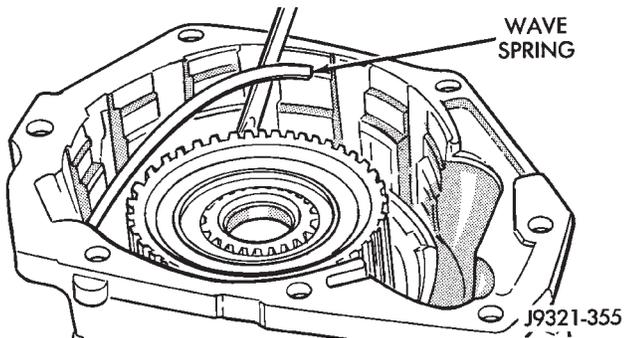

Fig. 260 Overdrive Clutch Wave Spring Installation
- (2) Install wave spring on top of reaction ring (Fig. 260). **Reaction ring and wave ring both fit in same ring groove.** Use screwdriver to seat each ring securely in groove. Also ensure that the ends of the two rings are offset from each other.